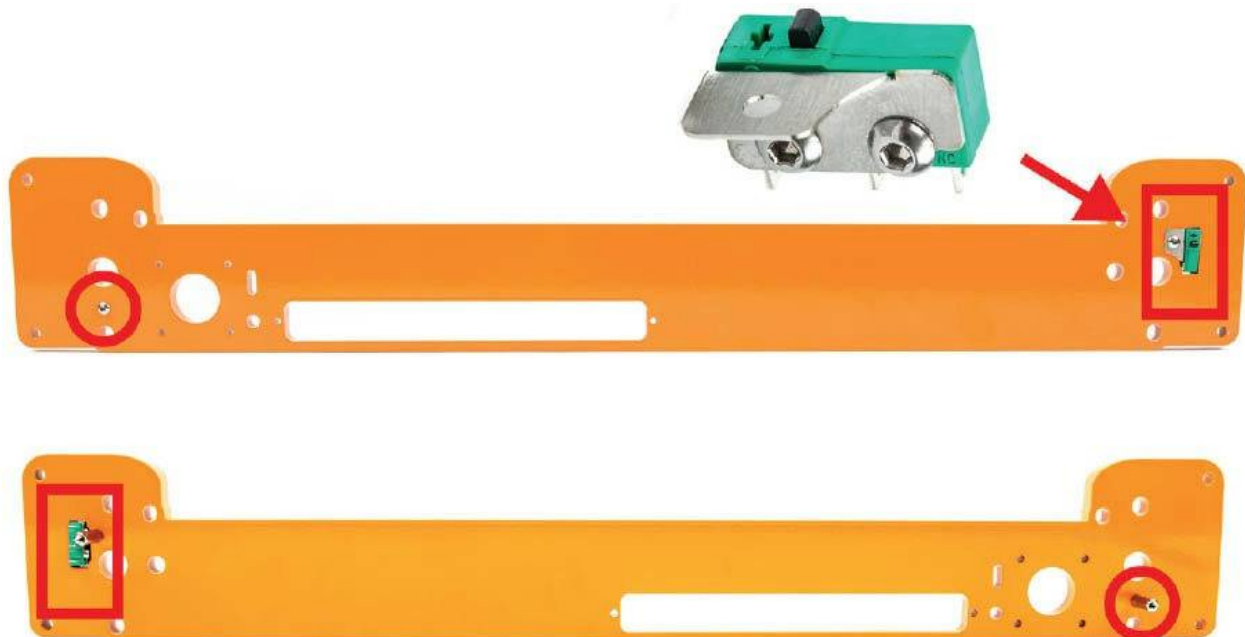

Fig. 2.61 The Y axis end switch
3. Fasten the mounted end switch to the back of the rear panel using a 12 mm M3 bolt and a 15 mm M3 spacer (see figure 2.61).